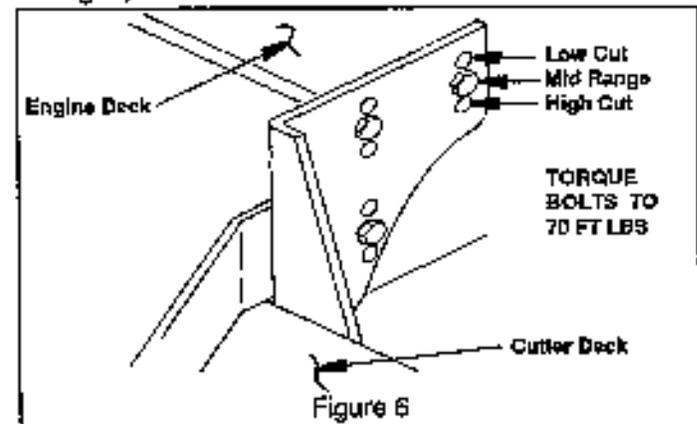

Figure 6
- Before beginning, determine which mounting holes are to be used to best suit the cutting height requirements of your customer. High/Medium/Low ranges (see fig. 6).
Additional range to the cutting height can be achieved by repositioning the cutter deck in relationship to the engine deck (This adjustment can also affect the pitch of the deck). There are 3 positions (see fig. 6), suggested mounting is the middle holes. For cutting lower, mount the deck in the top holes. To cut higher, mount the deck in the bottom holes. Remember to check the cutter deck belt alignment. Shim- ming or attaching the idler mounting bracket from underneath may be necessary to maintain belt life.